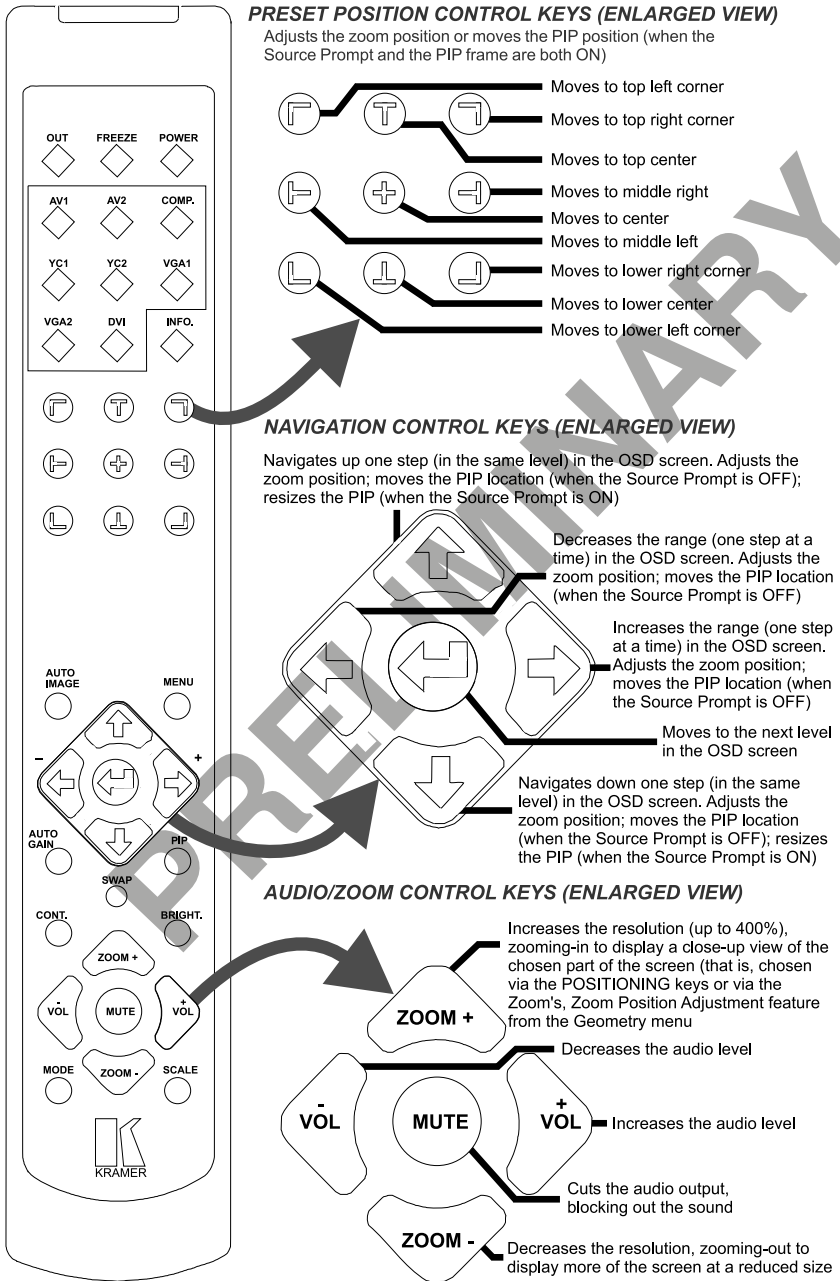
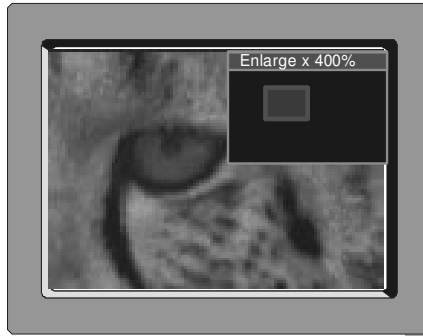

Figure 16: Infra-Red Remote Control Transmitter
Figure 25: OSD Enlarge Status
- Pressing the PIP key on the infra-red remote control transmitter (see section 6.4, Figure 16)
- Press the SWAP key on the infra-red remote control transmitter (see Figure 16)
- When the PIP is enclosed by an orange frame, use the UP and/or DOWN navigation control keys on the infra-red remote control transmitter (see Figure 16) or the UP and/or DOWN front panel OSD buttons; otherwise
¹ On the infra-red remote control transmitter to instantly move the position of the PIP window to up to nine preset fixed locations (see Figure 16). For example, to move to the lower right corner of the image, press the  button
² On the machine, or the navigation control keys on the infra-red remote control transmitter (see Figure 16)
- Press the PANEL LOCK button or the MENU key on the infra-red remote control transmitter (see Figure 16) for a few seconds, until the “Key Lock On” OSD status appears superimposed over the top right corner of the screen for a few seconds², and all button LEDs turn off
- Press and hold the PANEL LOCK button or the MENU key on the infra-red remote control transmitter (see Figure 16) for a few seconds, until the “Key Lock Off” OSD status appears superimposed over the top right corner of the screen for a few seconds²
Figure 16 and Table 4 define³ the infra-red Remote Control Transmitter:
3 The illustration in Figure 16 shows an enlarged view of 3 separate parts of the infra-red remote control transmitter
2 Consists of a set of 9 separate keys. See the illustration in Figure 16 which shows an enlarged view of this part of the infra-red remote control transmitter
3 A small rectangle inside a transparent pop-up OSD Enlarge status box appears at the top right corner of the screen showing the position of the zoom within a picture (see Figure 25)
7 Consists of a set of 5 separate keys. See the illustration in Figure 16 which shows an enlarged view of this part of the infra-red remote control transmitter
- Press the MENU front panel OSD button or the MENU key on the infra-red remote control transmitter (see Figure 16) to display the MENU screen (see Figure 17), which displays six interactive icons¹ (defined in Figure 18)
The zoom ratio and the zoom position are illustrated by a small rectangle inside a transparent pop-up OSD Enlarge status box that appears at the top right corner of the screen, as the example in Figure 25 illustrates:
- Using the Zoom + and/or the Zoom - control keys¹ on the infra-red remote control transmitter (see Figure 16). The pop-up OSD Enlarge status box continuously displays the zoom ratio and position, as Figure 25 illustrates